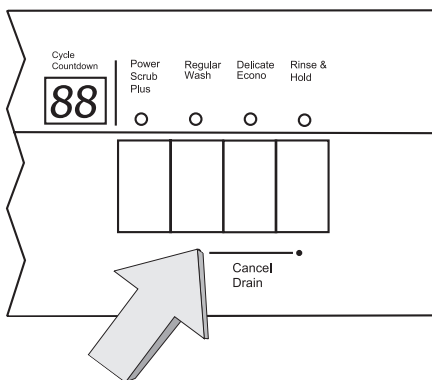

Figure 29/Ilus. 29
1. Press and hold the left-most of the two buttons labelled "Cancel Drain", as shown in Figure 29, then press and hold the On/Off button. When the LED display shows a "0" or a "4", release both buttons. The light above the left-most "Cancel Drain" button will begin to flash.